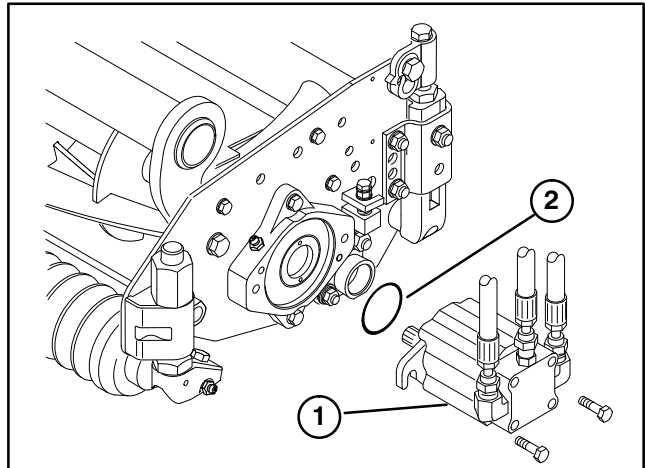

Figure 5
12. Mount the motor to the drive end of the cutting unit and secure with two capscrews provided (Fig. 5).